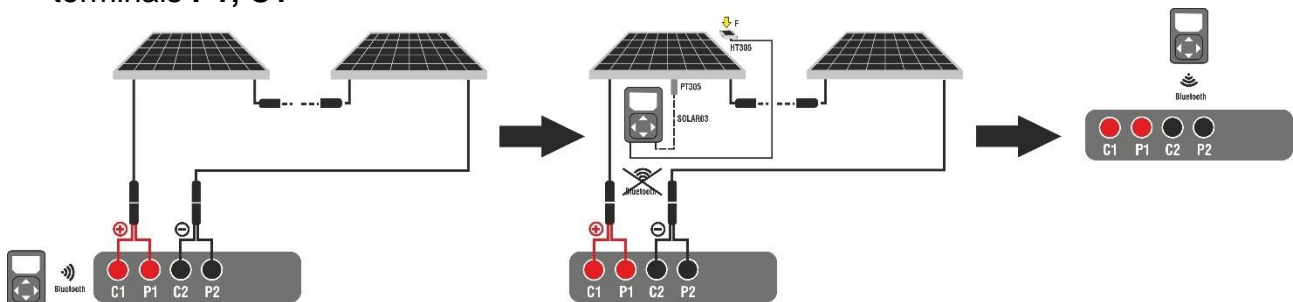
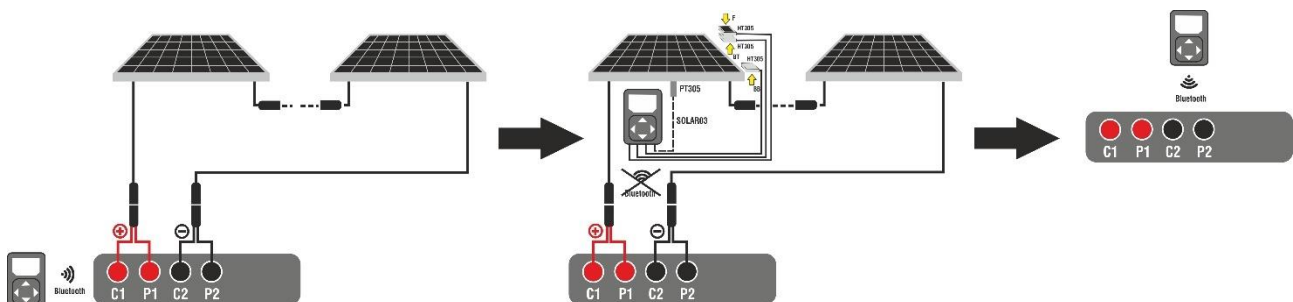

Fig. 47: Connection with SOLAR03 in synchronous recording on Monofacial modules
Fig. 48: Connection with SOLAR03 in synchronous recording on Bifacial modules
2. Connect the instrument to the module/string being tested as shown in Fig. 47 (Monofacial modules) or Fig. 48 (Bifacial modules). In detail, connect the negative pole output of the module/string to terminals **P2, C2** and the positive pole output of the module/string to terminals **P1, C1**
3. Move the SOLAR03 remote unit close to the instrument as shown in Fig. 47 or Fig. 48 – left side part
8. **Move the remote unit close to the modules** and connect the irradiance and temperature probes (if necessary) as shown in Fig. 47 or Fig. 48 – middle side part. In particular:
- **In case of Bifacial modules**→, position the **three HT305 reference cells** on the front surface of module (**F**), on the top back section(**BT=BackTop**) and on the bottom back section (**BB=BackBottom**) of the module. Connect the front reference cell (F) to input “**INP1**”, BT reference cell to input “**INP2**”, BB reference cell to input “**INP3**” and **possibly** the temperature probe **PT305** to input “**INP4**” of the remote unit. In accordance with the IEC/EN60904-1-2 standard, the instrument calculates the equivalent front-side Irradiance (**Irreq**) value, which corresponds to the Irradiance on the front surface only, which produces the same effects as the Irradiance measured on both sides, considering the **bifaciality factor** (φ) of the module according to the following relationship:
18. **At the end of the test session**, disconnect the SOLAR03 remote unit and move it back close to the instrument (see Fig. 47 or Fig. 48 – right side part)